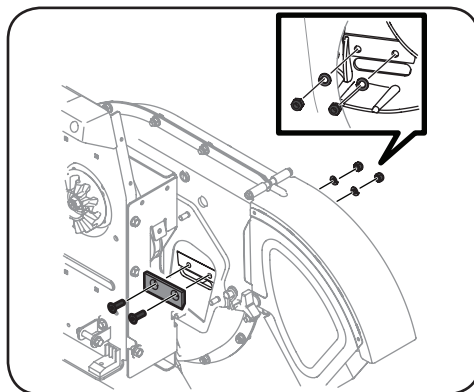

Figure 5-11
- Remove the blade by removing the internal hex screws, lock washers and hex nuts which secure it to the impeller. See Figure 5-11. Retain the hardware.